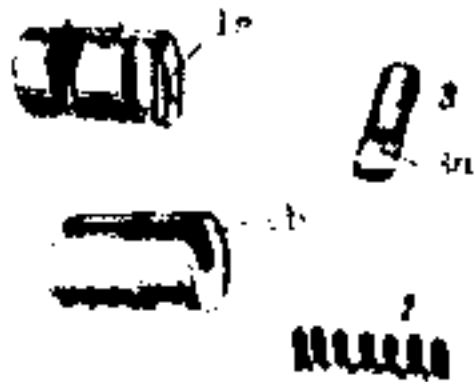

Figure 26. Extractor (3-6) with spring and pin.
The extractor (fig. 26) with spring (2) removes the cartridge case from the chamber and holds it in the bolt housing until it meets the ejector.